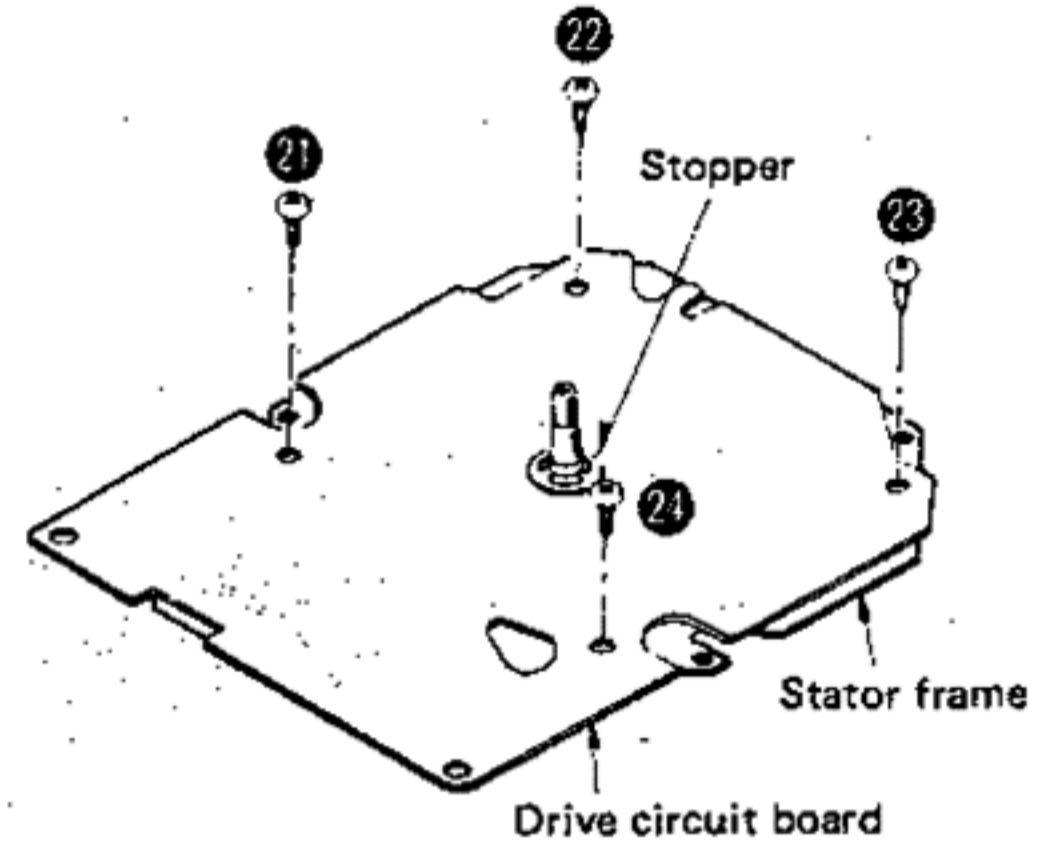

Fig. 10
3. Cut off the stopper by nippers and remove the 4 setscrews (Fig. 10: ②① ~ ②④) to separate the stator frame and drive circuit board.